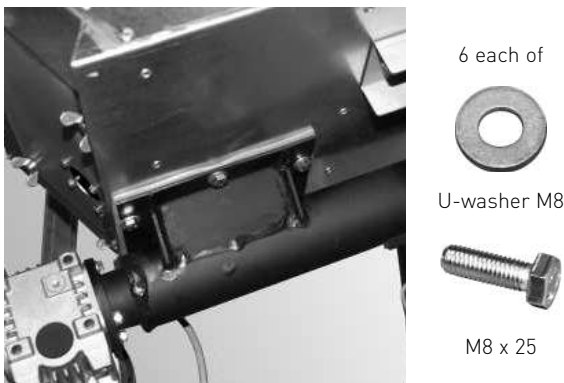

Fig. 29 Fitting auger with 6 U-washers and 6 hexagon screws
- Screw hopper to auger tube flange plate with 6 x M8 U-washers and 6 hexagon screws (M8 x 25) – Fig. 29.